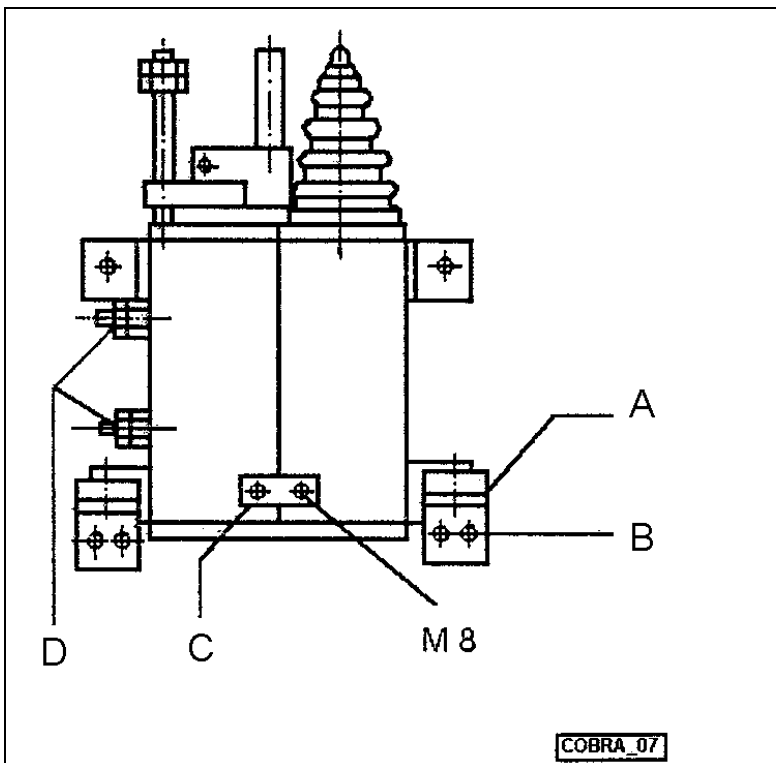

Fig. 7: Adjustment of the distance pick up arm - lubricating head
- Cylinder of the pick up arm engaged; the catching element of the pick up arm (A) is close to the contact disc (E)
- Unscrew the 4 x 2 counter nuts on the side of the cylinder of the pick up arm (see Fig. 7)
- Unscrew the 2 M8 screws on the bracket at the rear part of the two cylinders (see Fig. 7)
- Adjust the cylinder of the pick up arm and that of the lubricating head by means of the M12 counter nuts in such a way that the lubricating head and the lubrication fitting are aligned (Fig. 7). The distance between the cylinders must be smaller than 10 mm.